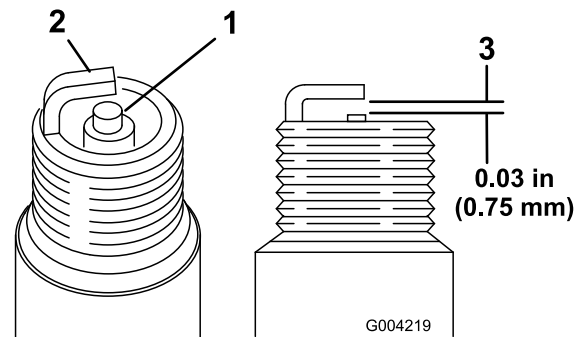

Figure 34
1. Look at the center of both spark plugs (Figure 34). If you see light brown or gray on the insulator, the engine is operating properly. A black coating on the insulator usually means the air cleaner is dirty.
2. Check the gap between the center and side electrodes (Figure 34).
3. Bend the side electrode (Figure 34) if the gap is not correct.